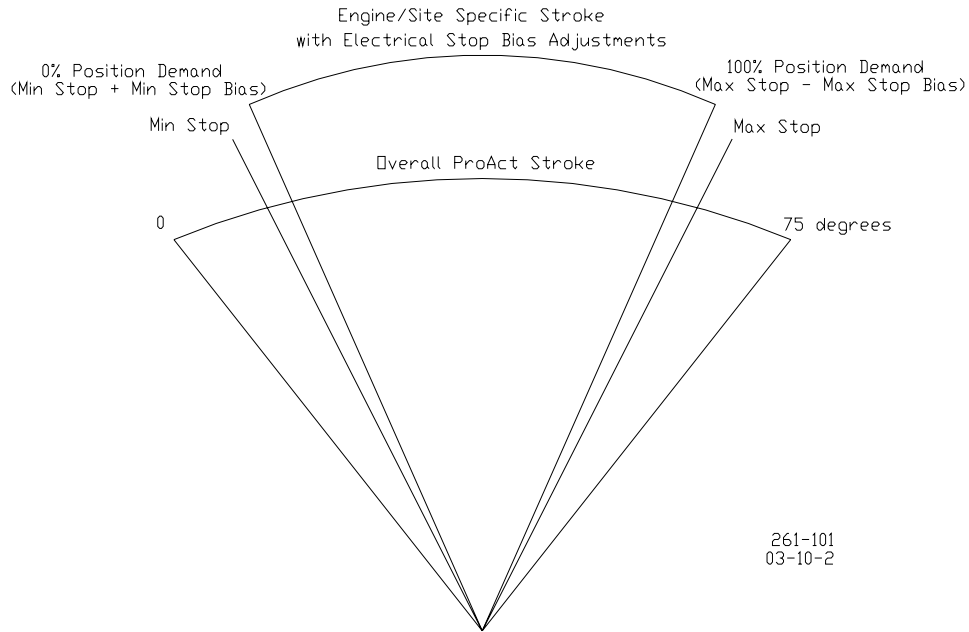

Figure 9-6. Electrical Stop Adjustments Relative to the Mechanical Min and Max Stops
14. Optionally, set the offset (bias) desired at each stop. The Min Stop Bias and Max Stop Bias parameters are available in the Hardware Adjustments to basically provide an electrical stop within the user calibrated stop settings. This offset is in degrees of travel and can be adjusted anytime. Refer to Figure 9-6 and Service Mode: Hardware adjustments later in this chapter.